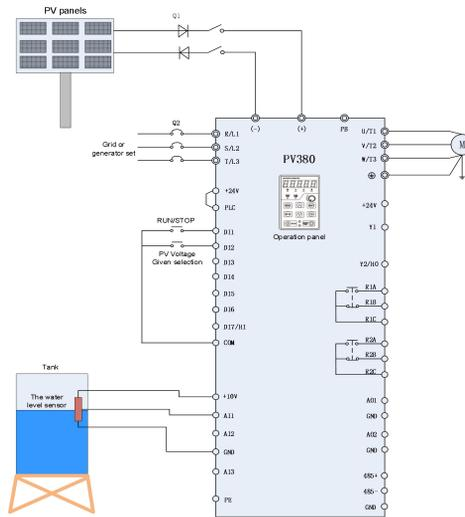

Figure 3-2 PV Grid or Generator Power Supply Wiring Diagram
1. Wirings as Figure3-2 system wiring drawings according to inverters power, check and confirm the connections to be correct.